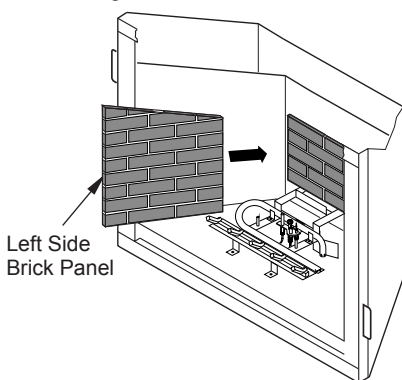

Figure 43 - Installing Side Brick Panels
6. Install left side brick panel by sliding it between grate and side of firebox (see Figure 43).